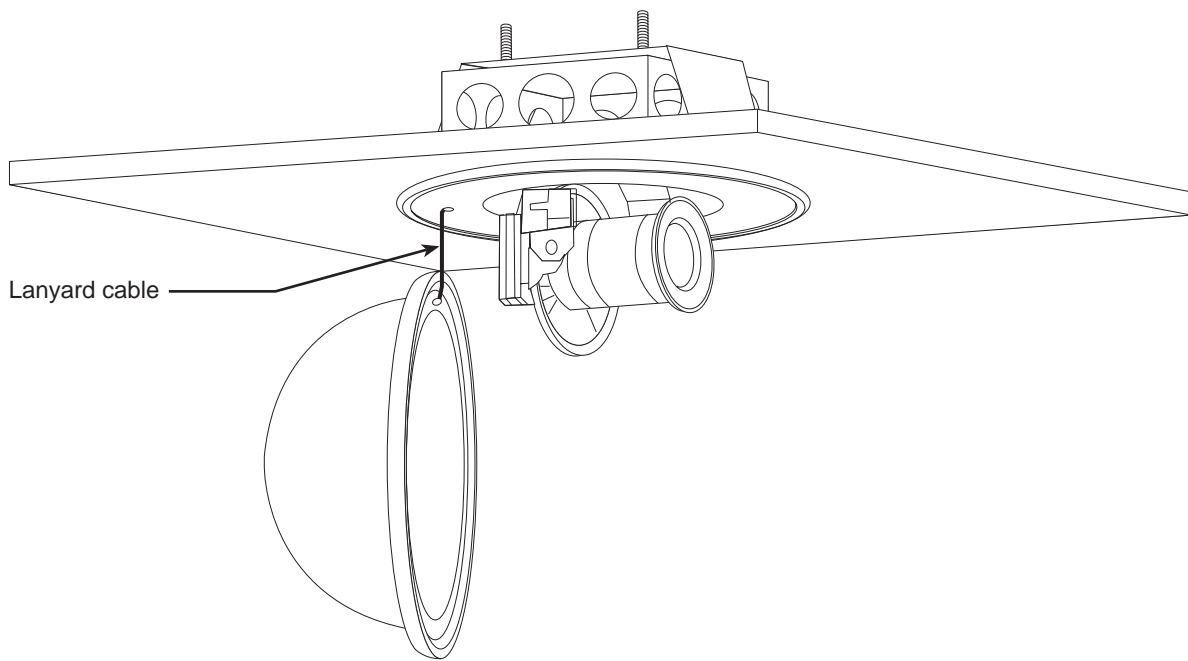

Figure 18. The dome camera installed in the back box
13. Steps 14 and 15 describe installing the top hat in the back box (see figure 18).